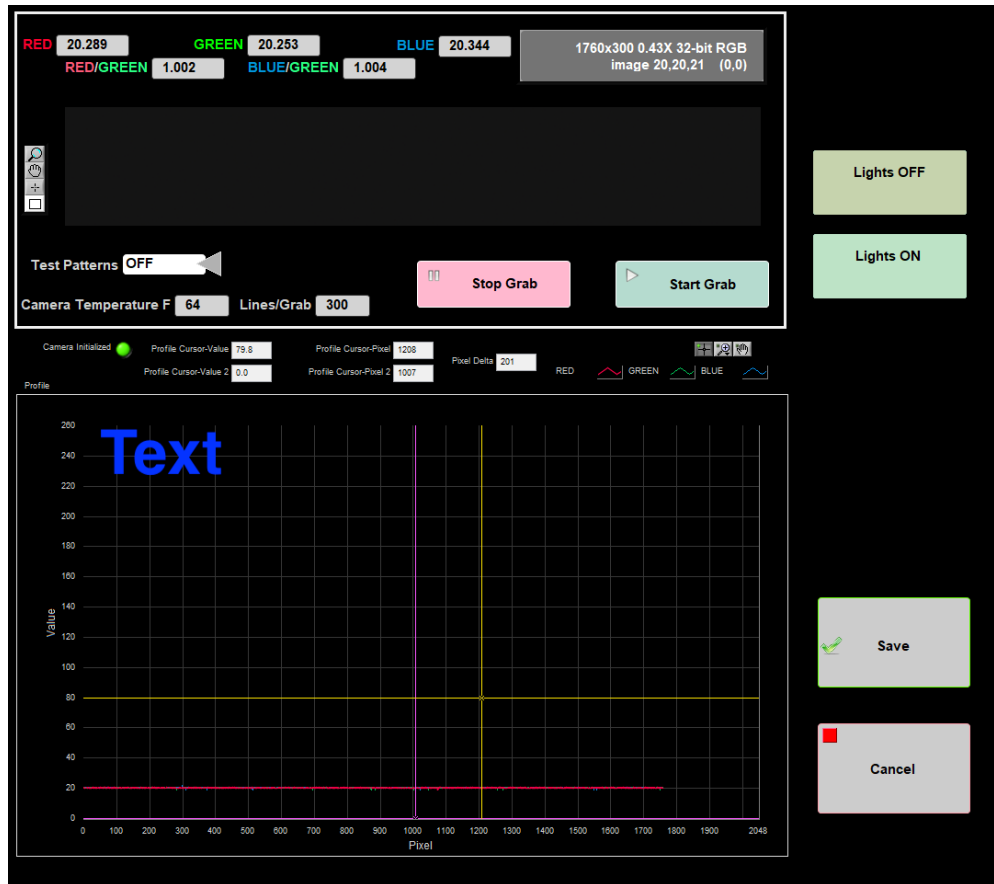

Figure 24. Pixel Black Correction applied.
2. With **lights off** click **Pixel Black Auto Correction**. The RGB lines in the **Profile** graph should be uniform (*Figure 24*).